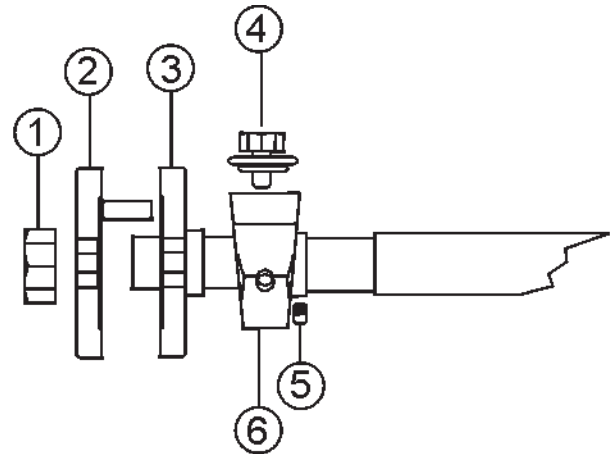
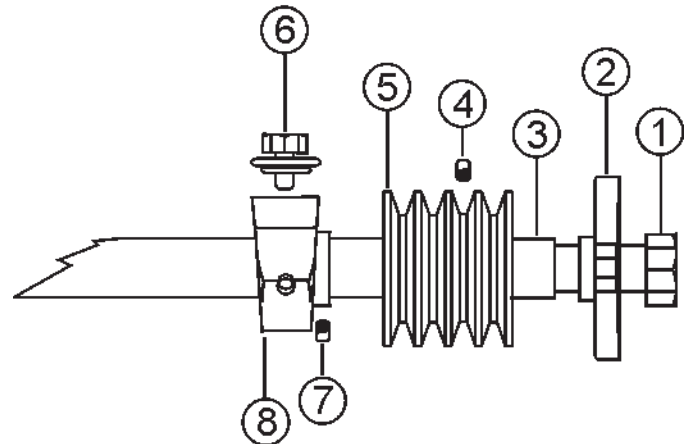

Figure 57. Blade Side Bearing (Right Side)
Figure 58. Pulley Side Bearing (Left Side)
The SP2 CE saw is supported by “tapped base lock collar (w/set screw)” self-aligning **Blade Shaft Bearings** (Figures 57 and 58). These heavy duty bearings support the 1-1/4 blade shaft, and have grease (zerk) points conveniently located for service.
Reference Figure 57 & Figure 58 for steps 4-9
4. Remove **Blade Hex Nuts** (Figures 57 & 58, item 1) and
Outside/Inside Blade Flanges (Figures 57, item 2 & 3)
5. Loosen **set screws** (Figure 58, item 4) and slide **Pulley** (Figure 58, item 5) off the Blade Shaft. Loosen Bearing set screw, remove **Bearing Bolt** (Figure 58, item 6) and slide the **Blade Shaft Bearing** (Figure 58, item 8) off the blade shaft.
6. Loosen **set screws** (Figure 57, item 5), remove **Bearing Bolt** (Figure 57, item 4) and slide the **Blade Shaft Bearing** (Figure 57, item 6) off the blade shaft.